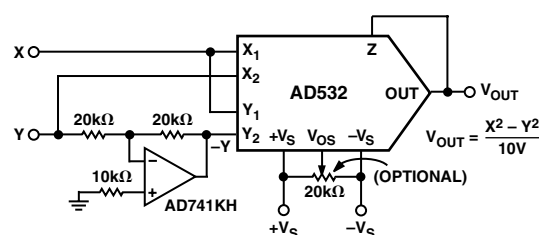

Figure 15. Differential of Squares Connection
The differential input capability of the AD532 allows for the algebraic solution of several interesting functions, such as the difference of squares, $X_2 - Y_2/10$ V. As shown in Figure 15, the AD532 is configured in the square mode, with a simple unity gain inverter connected between one of the signal inputs (Y) and one of the inverting input terminals ($-Y_{IN}$) of the multiplier. The inverter should use precision (0.1%) resistors or be otherwise trimmed for unity gain for best accuracy.